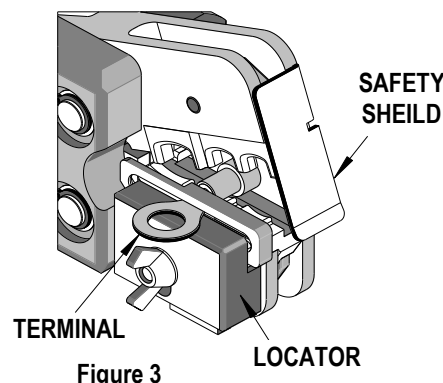

Figure 3
4. If using a locator, lift the locator and insert the terminal with the wire in the proper nest with the barrel up and against the locator bar. Release the locator blade to hold the terminal in position. See Figure 3. Locator may be raised or lowered so terminal sits flat and straight in tool. The locator must be removed to run splices.